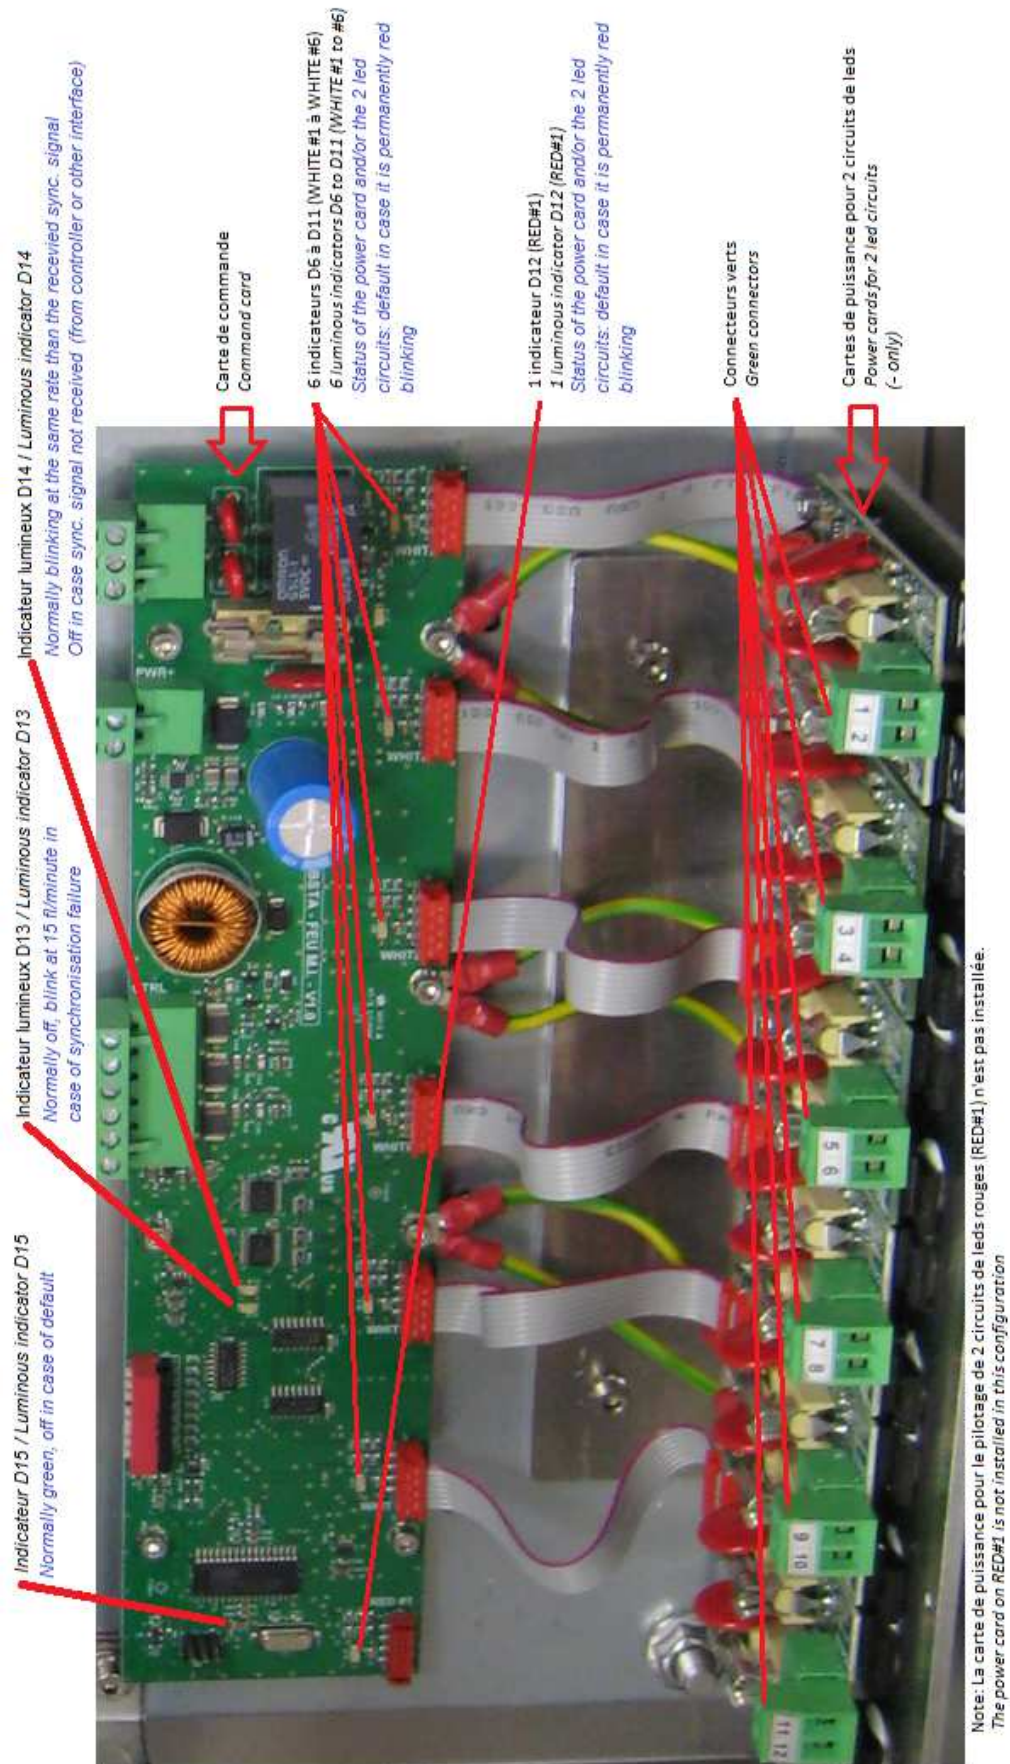

Figure 2-1. LUMINOUS INDICATORS ON THE COMMAND CARD
Those 7 power cards are connected to the command card through connector. The status of the command cards and their respective led circuits are indicated by the luminous indicators D6 to D12 on the command card (figure 2-1 below). Those indicators are normally off and red blinking in case of default.
- detect the alarm of the complete system with 9 luminous indicators described in figure 2-1,